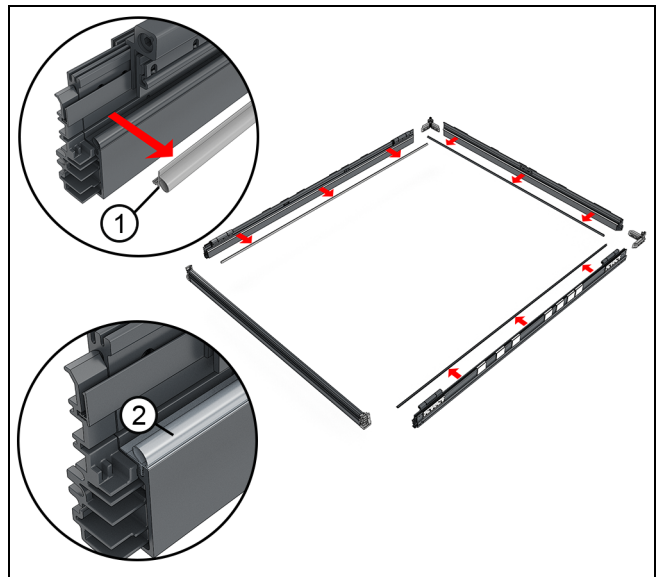

Figure 13
2. Remove the jamb and head jamb frame weatherstrip that is lightly tacked into place. Set aside for use later. See Figure 13.